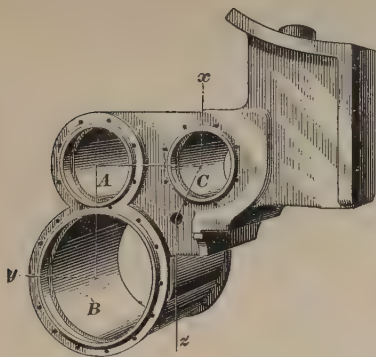
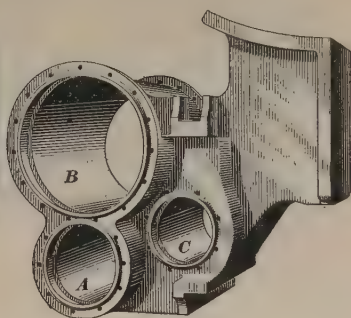

FIG. 1
FIG. 2
19. General Arrangement.—The Vaucain compound locomotive consists of two compound engines, one on either side, the two cylinders *A*, *B*, the valve chamber *C*, and a half saddle being cast in one piece, Figs. 1 and 2. The arrangement of the cylinders and valve bush in the saddle depends on the size of the driving wheels, as with small wheels the
large, low-pressure cylinder will strike the ground; in such cases, this cylinder is placed above the other. In eight- and ten-wheeled locomotives having large drivers the arrangement used is that shown in Fig. 1; in mogul, consolidation, and decapod locomotives, the arrangement is that shown in Fig. 2. It will be observed that, whatever the arrangement,
22. Movement of Piston Valve.—When the cylinders are arranged, Fig. 1, with the low-pressure cylinder underneath, a **rocker** is used to transmit the motion of the eccentrics to the valve; but when the low-pressure cylinder
is on top, as in Fig. 2, the upper bar of the frame prevents the use of a rocker, and the valve gear must be made direct-acting. The method used to transmit the motion of the eccentrics to the valve, when a double front rail is used,